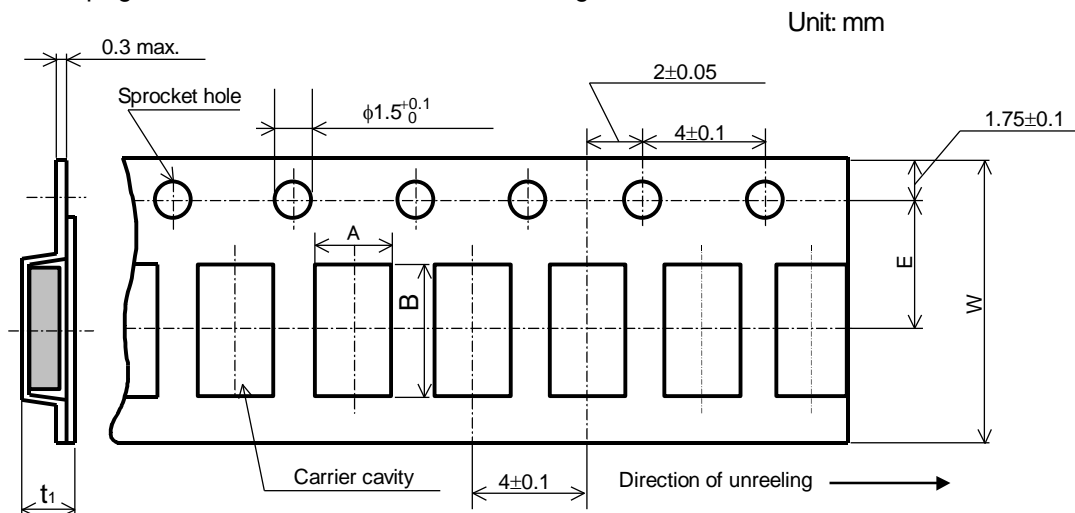

Figure-7
8.2.2 Embossed taping dimensions shall be in accordance with Figure-7 and Table-6.